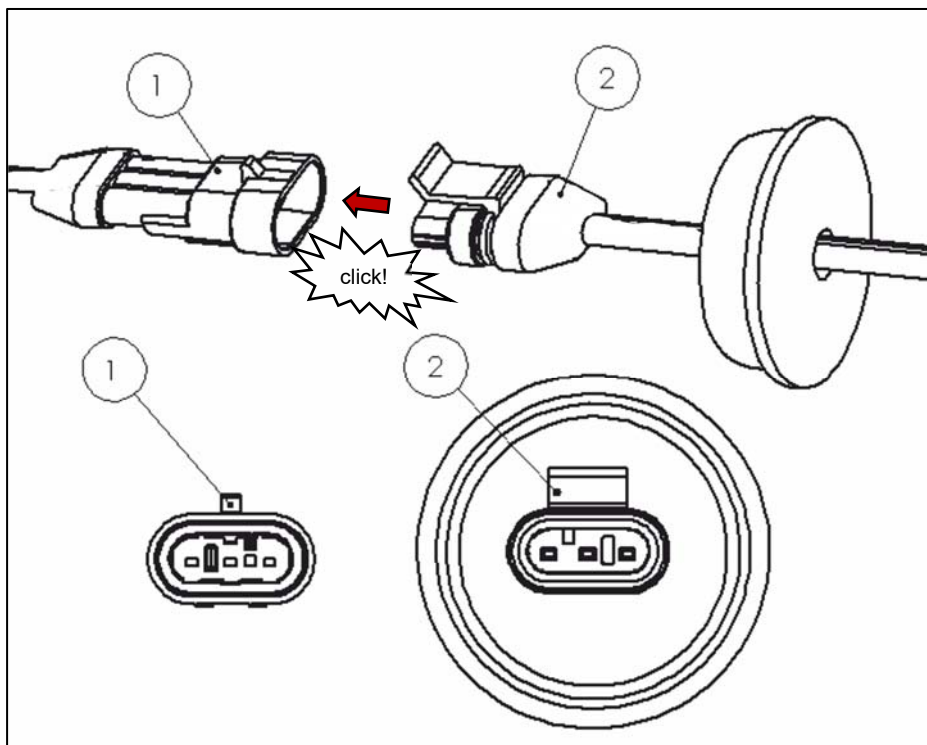

Fig. 60
➤ Connect the platform cable connector (1) to the Control Unit connector (2) (see Fig. 60)